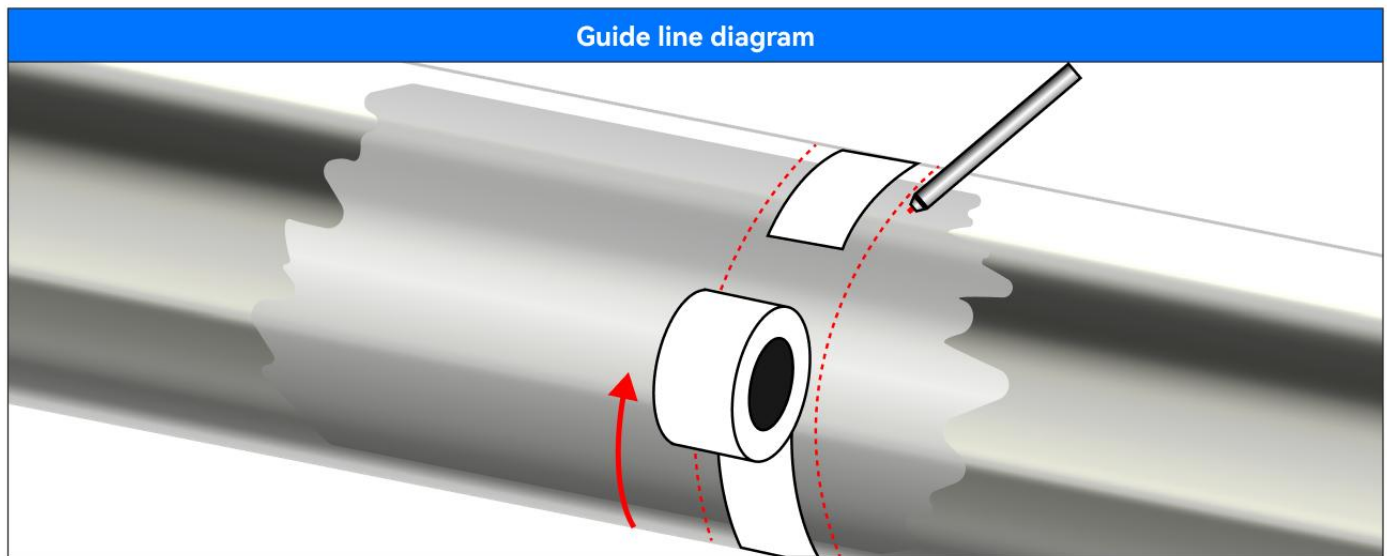

Figure 3.15
5. Plastic tape is provided to help mark precise circular guide lines. Unfold the shaft around the plastic belt provided. If the torque gauge assembly, the guide line needs to be aligned with an edge. If a mounting platform is prepared on the container floor, check to ensure that the guide line will allow the torsion gauge assembly to align with the position of the mounting column. Take care to ensure that the plastic tape is laid flat without any distortion or collision. Secure the ends of the plastic tape to the shaft with tape. Use a pen to mark a guide line around the shaft circumference along the edge of the tape, as shown in Figure 3.15.